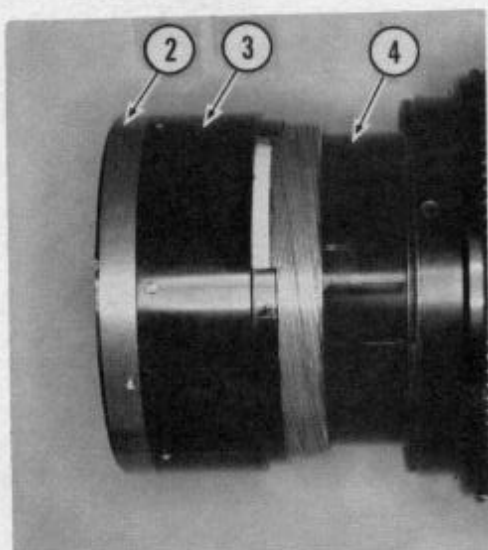

Fig. 56
- 9.1.4 Slide Inner Focus Ring (5) to rear of lens to expose Outer Helicoid (3), Infinity Stop Ring (2), and 1st Lens Group. (Fig. 56)